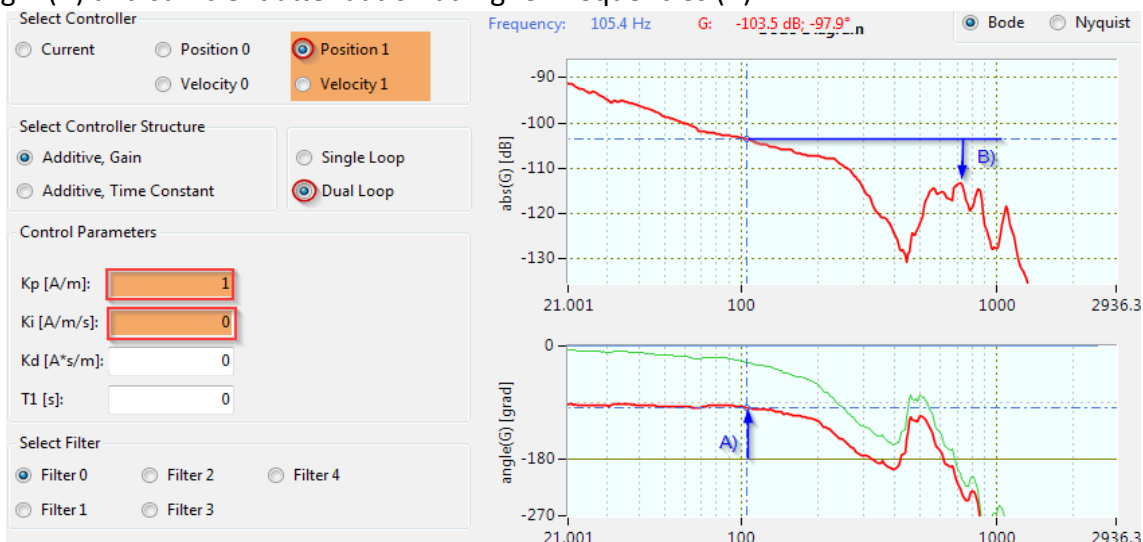
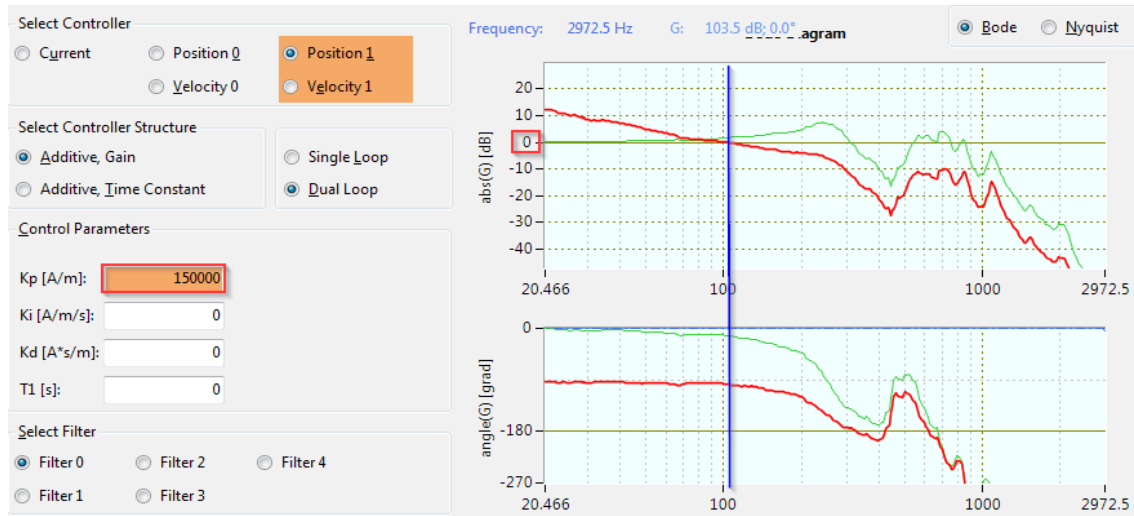

Figure 8: Tuning of outer loop: A) phase margin; B) attenuation at higher frequencies.
Figure 9: Gain crossover frequency with tuned K_p .
- Activate **Position 1** in the **Select Controller** panel and **Dual Loop** in the **Select Controller Structure** panel and set **Kp** = 1 and **Ki** = 0 and activate the **Bode** plot view (Figure 8).
- In the bode plot choose a gain crossover frequency f_{gc} as displayed in Figure 8 with sufficient phase margin (A) and sufficient attenuation at higher frequencies (B).
- In the example displayed in Figure 8 f_{gc} is chosen at 105Hz where the open loop gain G_{gc} is -103.5dB (with **Kp** = 1). With G_{gc} the controller gain can be calculated with equation (8) which yields **Kp** = 150000. With this **Kp**, the open loop gain in the bode display should now cross 0dB at f_{gc} (Figure 9).